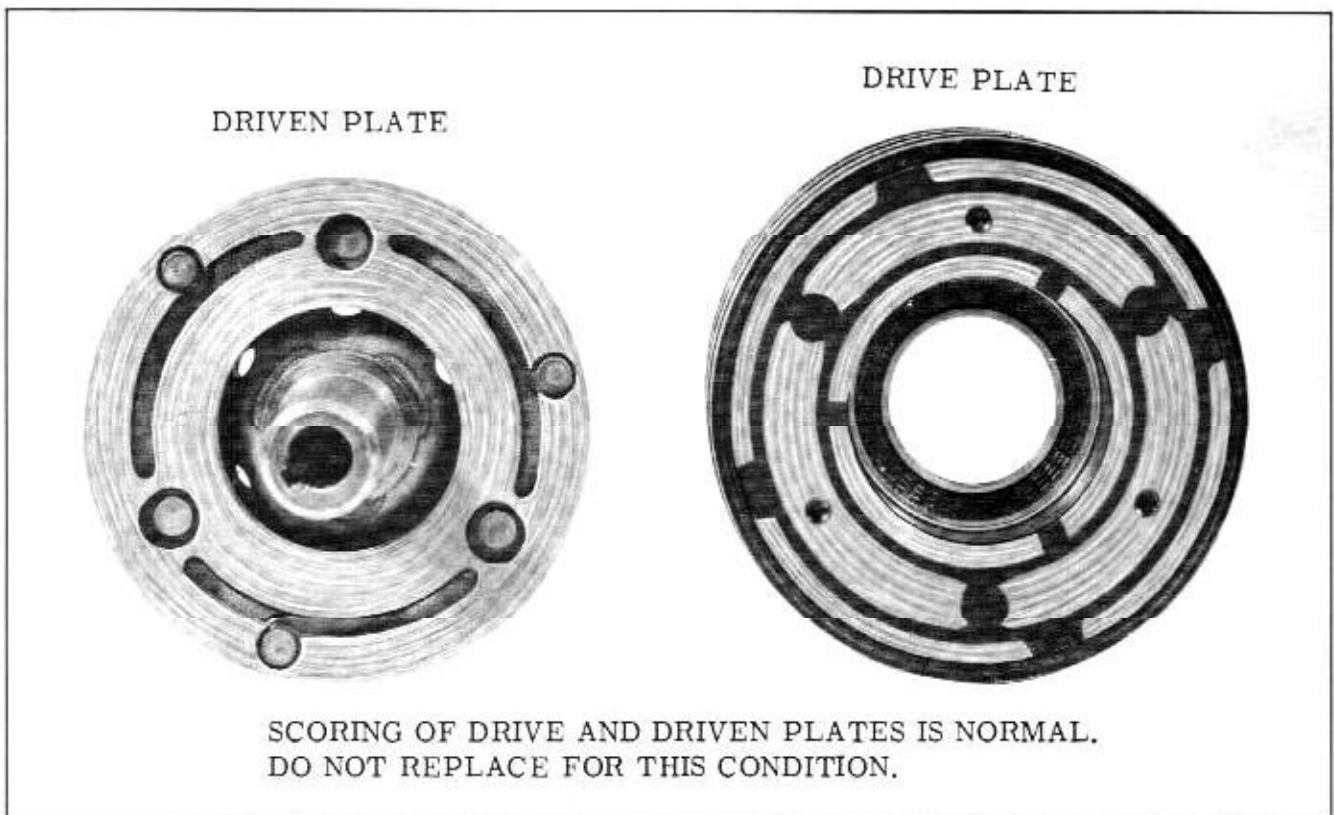

Fig. 14-20 Normal Clutch Plate Wear
6. Inspect driven plate for cracks or stresses in the resilient drive. Do not place driven plate for a scoring condition. (Fig. 14-20)